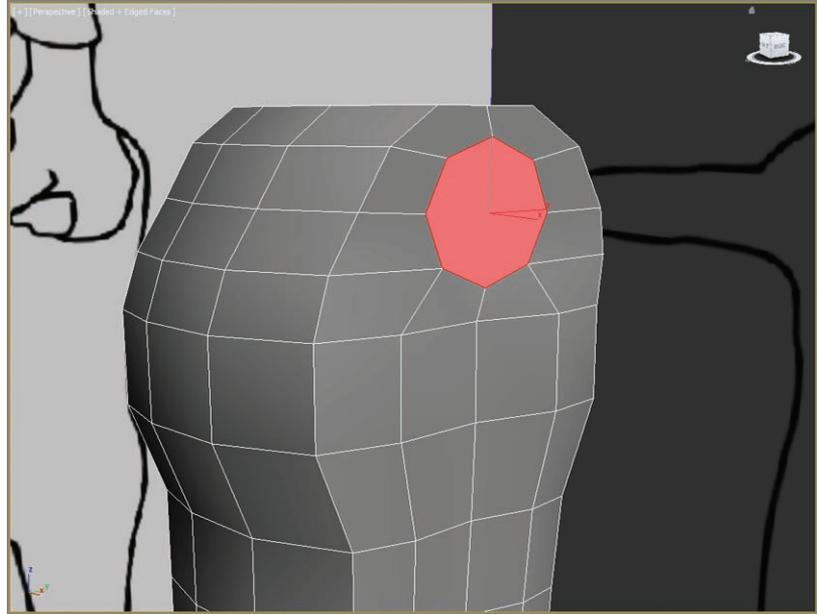

FIGURE 7.15 Use GeoPoly to create a symmetrical shape for the armhole.
27. In the Graphite Modeling Tools tab > Polygons, click the GeoPoly tool to create a symmetrical polygon from the previous shape, as shown in Figure 7.15.